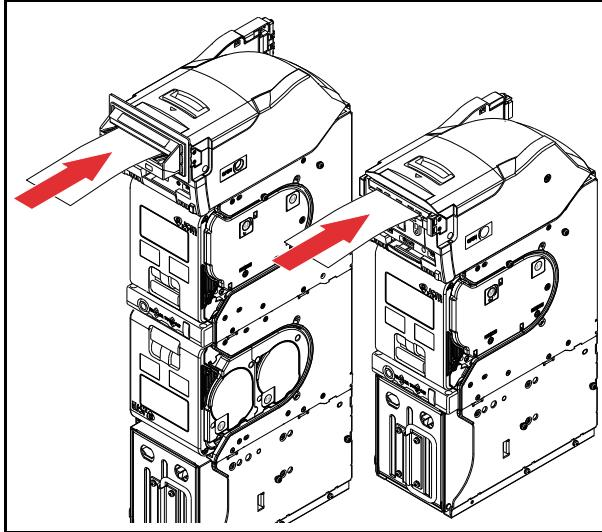

Figure 2-11 Refilling Banknotes
1. Insert Banknotes note-by-note in a single fashion into the Insertion Slot or Bezel (Figure 2-11).